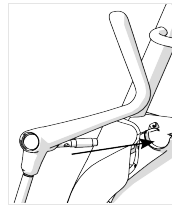
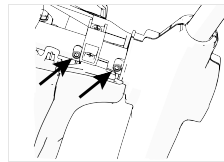

Figure 15
Figure 16
1. Insert the shaft of the moving arm to the center mount (Figure 15) and align pre-installed set screws to the shaft (Figure 16).